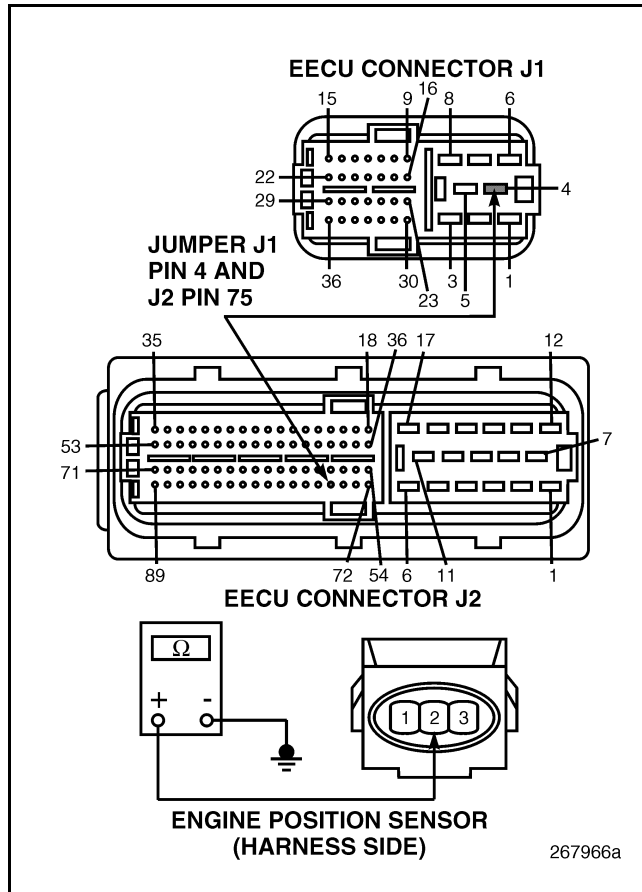

Figure 416
4. Check for continuity between pin 2 on the harness side of the Engine Position (EP) Sensor connector and a good ground (see Figure 416).